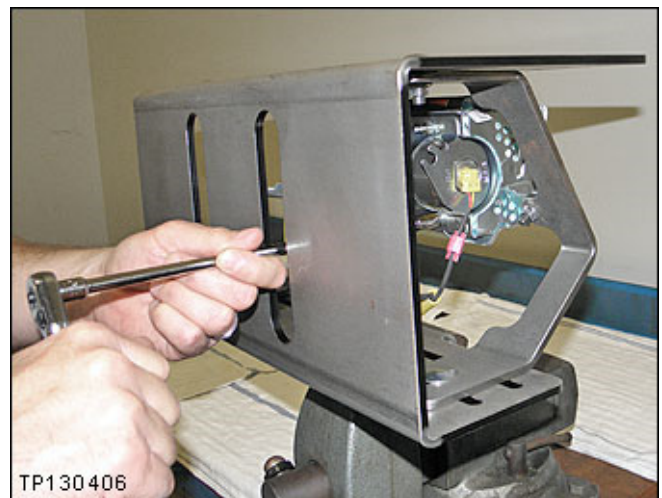

Figure F8
10. Remove the 4 nuts from the module that hold the inflator in place (see Figures F8 and F9).